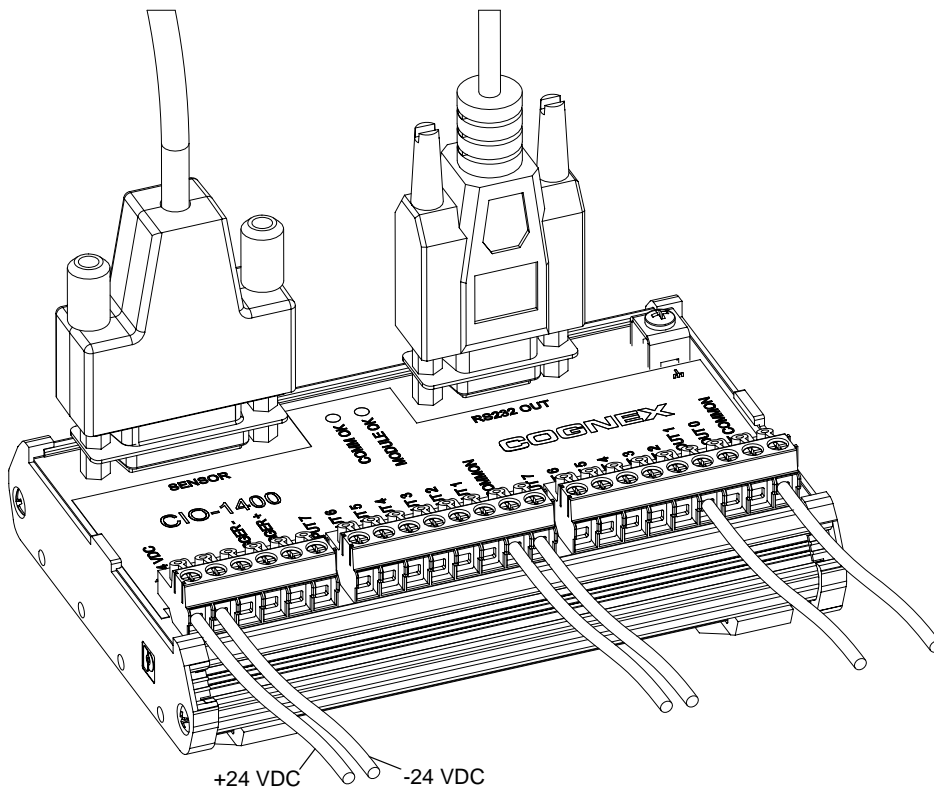

Figure 2-4: Connecting Power (+24 VDC and Ground Wires)
9. Insert the +24VDC and negative ground wire leads from a 24VDC power supply into the two terminals (labeled +-24 VDC) on the Expansion Module (Figure 2-4).